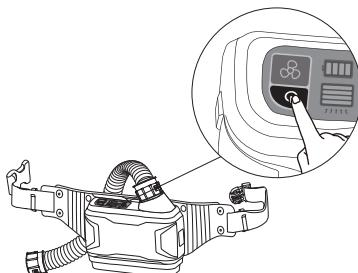

fig.12
- Press and hold the on/off button for 2 seconds to power off the blower unit (See fig.12).